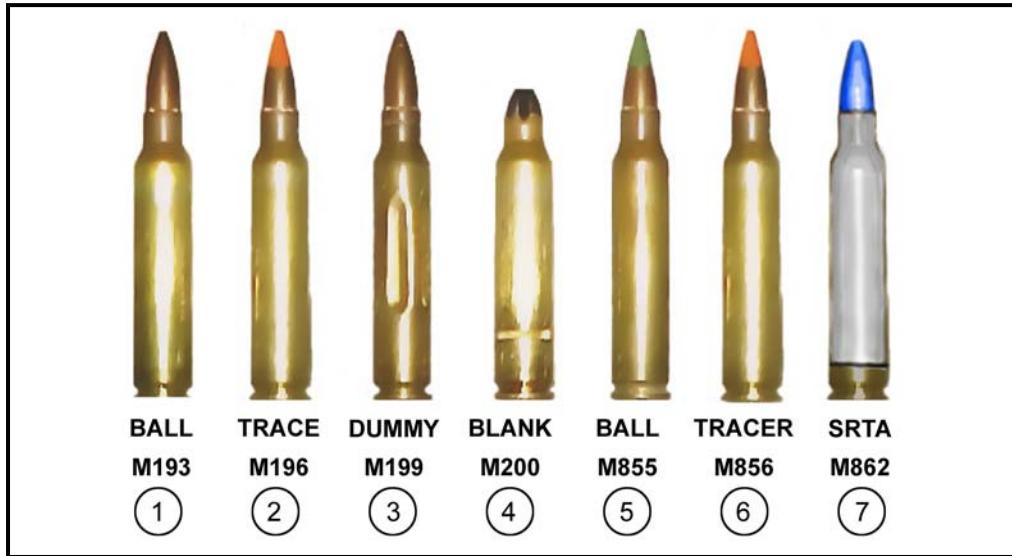
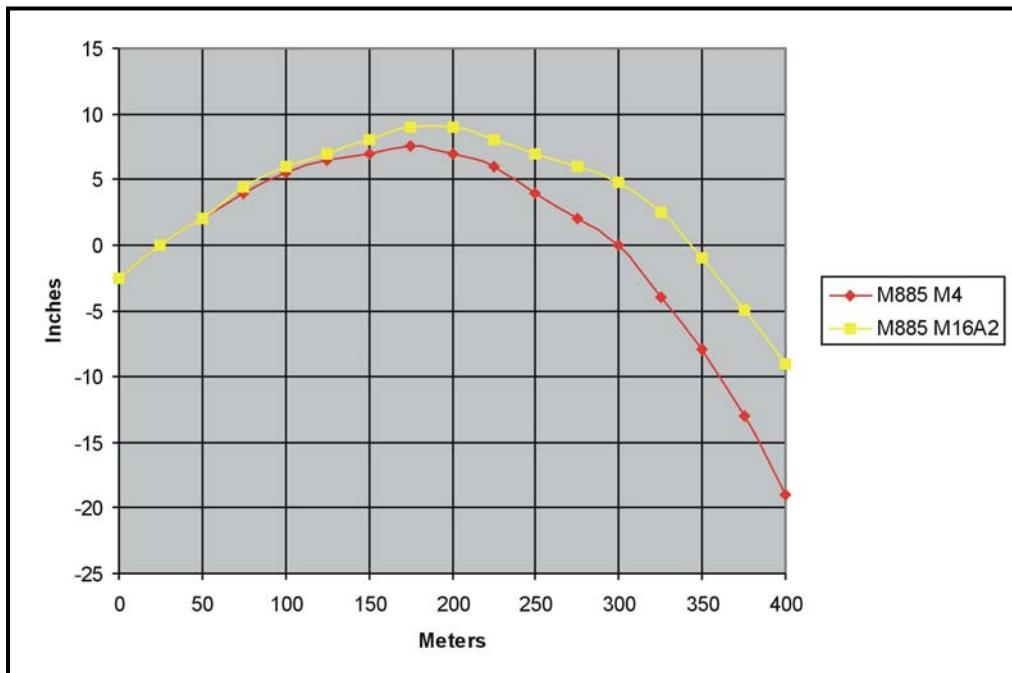

Figure 2-42. Ammunition, 5.56-mm for the M16- and M4-series weapons.
Figure 2-43. M855 drop during 25-meter zeroing
This paragraph provides information on different types of standard military ammunition used in the M16-/M4-series weapons (Figure 2-42, page 2-28). Use only authorized ammunition manufactured to U.S. and NATO specifications. (Figures 2-43 through 2-47 [pages 2-28 through 2-30] show ammunition trajectory data.)
a. **Cartridge, 5.56-mm, Ball, M193.** The M193 cartridge is a center-fire cartridge with a 55-grain, gilded metal-jacketed, lead alloy core bullet. The M193 round is the standard cartridge for field use with the M16A1 rifle and has no identifying marks (1, Figure 2-42, page 2-28).
b. **Cartridge, 5.56-mm, Tracer, M196.** (Used in the M16A1 rifle) The M196 cartridge has a red or orange painted tip (2, Figure 2-42, page 2-28). Its main uses are for observation of fire, incendiary effect, and signaling. Soldiers should avoid long-term use of 100 percent tracer rounds, which could cause deposits of incendiary material, or chemical compounds that could damage the barrel. Therefore, when tracer rounds are fired, they are mixed with ball ammunition in a ratio of no greater than one-to-one with a preferred ratio of three or four ball rounds to one tracer round.
c. **Cartridge, 5.56-mm, Dummy, M199.** (Used in all rifles.) The M199 dummy cartridge is used during dry firing and other training (3, Figure 2-42, page 2-28). This cartridge can be identified by the six grooves along the sides of the case beginning about 1/2 inch from its tip. It contains no propellant or primer. The primer well is open to prevent damage to the firing pin.
d. **Cartridge, 5.56-mm, Blank, M200.** (Used in all rifles.) The M200 blank cartridge has no projectile. The case mouth is closed with a seven-petal rosette crimp and shows a violet tip (4, Figure 2-42, page 2-28).
e. **Cartridge, 5.56-mm, Ball, M855.** (Used in the M16A2/3/4 and M4-series weapons.) The M855 cartridge has a 62-grain, gilded metal-jacketed, lead alloy core bullet with a steel penetrator. The primer and case are waterproof. This round is also linked and used in the M249. It has a green tip (5, Figure 2-42, page 2-28). This ammunition should not be used in the M16A1 except under emergency conditions, and only at targets less than 90 meters in distance. (The twist of the M16A1 rifling is not sufficient to stabilize the heavier projectile of the round).
f. **Cartridge, 5.56-mm, Tracer, M856.** (Used in the M16A2/3/4 and M4-series weapons.) The M856 tracer cartridge has characteristics similar to the M196 tracer with a slightly longer tracer burnout distance. This cartridge has a 63.7-grain bullet. The M856 does not have a steel penetrator. It has a red tip (orange when linked 4 to 1 for the M249) (6, Figure 2-42, page 2-28). This ammunition should not be used in the M16A1 except under emergency conditions, and only at targets less than 90 meters in distance. (The twist of the M16A1 rifling is not sufficient to stabilize the projectile of the heavier ammunition).
g. **Cartridge, 5.56-mm Short-Range Training Ammunition (SRTA), M862.** (Used in all rifles.) The M862 SRTA (7, Figure 2-42, page 2-28) is designed exclusively for training. It can be used in lieu of service ammunition on indoor ranges and by units that have a limited range fan that does not allow the firing of service ammunition. SRTA ammunition must be used with the M2 training bolt.
(1) Although SRTA closely replicates the trajectory and characteristics of service ammunition out to 25 meters, it should not be used to set battle sight zero of weapons to fire service ammunition. The settings that are placed on the sights for SRTA could be different for service ammunition.
(2) If adequate range facilities are not available for sustainment training, SRTA can be used for any firing exercise of 25 meters or less. This includes the 25-meter scaled silhouette, 25-meter alternate qualification course, and quick-fire training. SRTA can also be used for Urban Operations training. (See Appendix A for use of SRTA in training.)